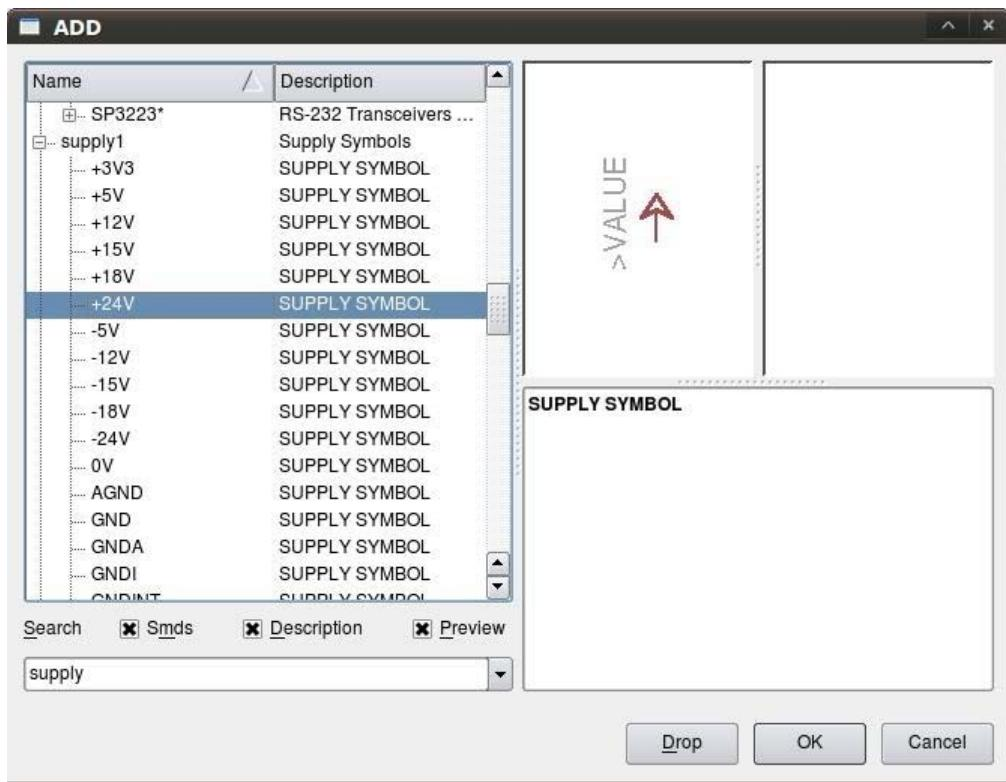

Figure 6-2. Adding supply symbols for +24v and GND
2. *Add supply symbols:* With the schematic editor open, select Edit Add(see Figure 6-2). Type **supply** into the search bar and press Enter on your keyboard. Scroll down until you see the “+24v” symbol and select it, placing it on the schematic. Next select Add again and find the “GND” symbol, placing it on the schematic.